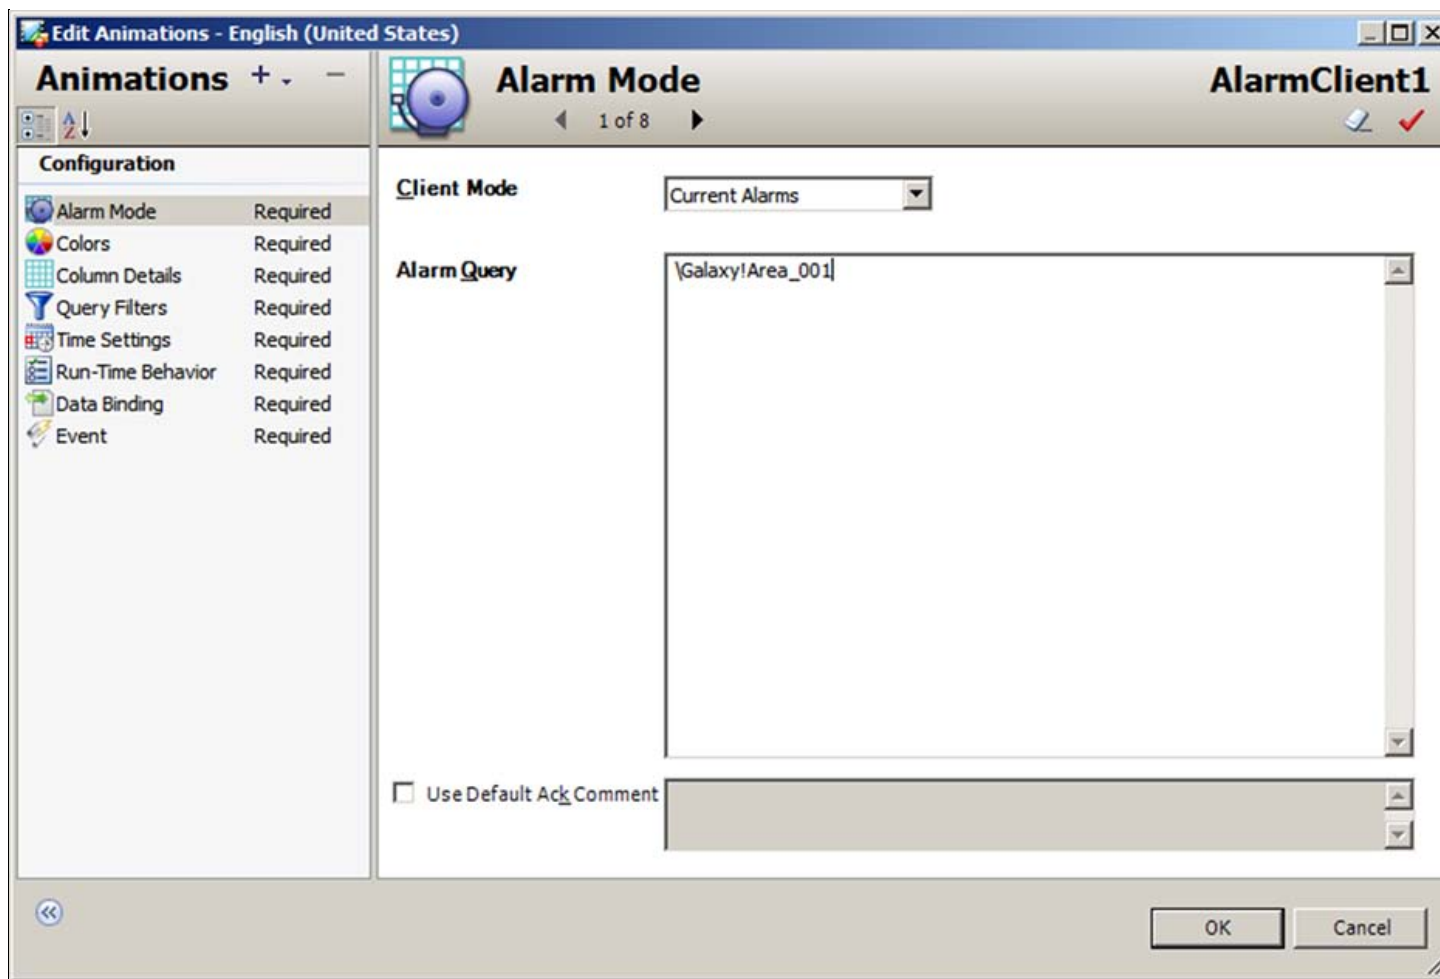

FIGURE 16: ALARM QUERY
3. Double-click the Alarm Client Control and type the alarm query as `\Galaxy!Area_001` (Figure 16 below).